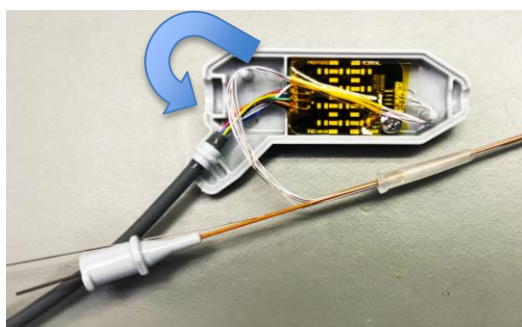

Figure 12: Micro-coaxial loop
7.10.7 Continue the loop around proximal bridgeboard housing pin (Figure 12). Tape the remaining section of micro-coaxial cable to the bridgeboard circuit.